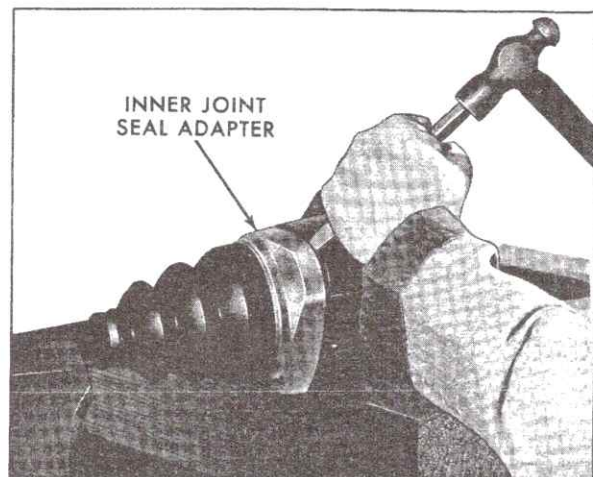

Fig. 3-56 Removing Seal Adapter from Joint Housing
3. Remove large end of seal from the joint housing by prying up crimped edge on seal adapter. Next, drive the seal adapter and seal off of the joint housing with a hammer and chisel as shown in Fig. 3-56.